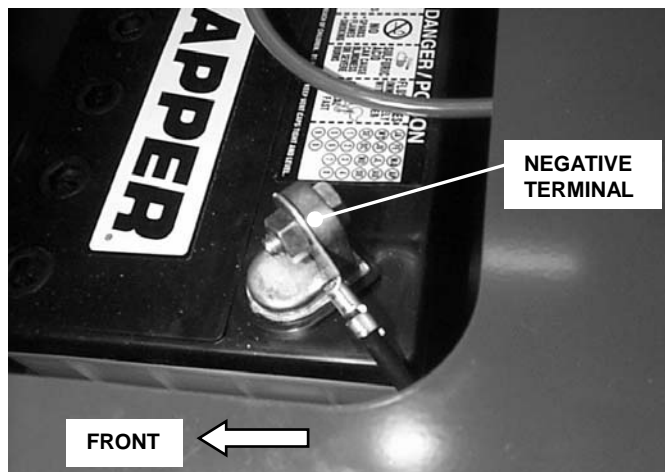

FIGURE 4.16
3. Connect negative (-) cable (black) last, to negative terminal (-) on battery using bolt and nut. Apply a small amount of grease over terminals to prevent corrosion. See Figure 4.16.